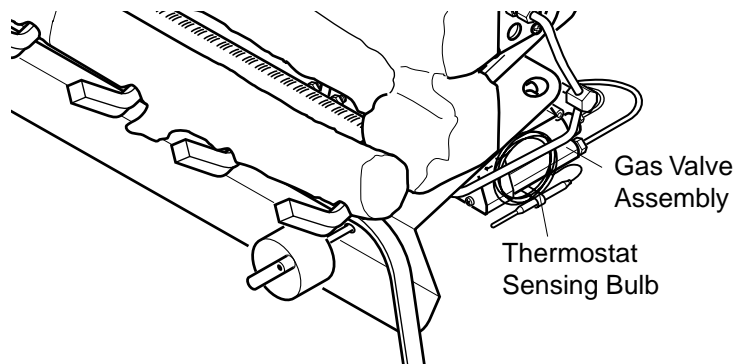

Figure 34 - Location of Gas Valve Assembly and Thermostat Sensing Bulb
1. Locate the gas valve assembly and thermostat sensing bulb (see Figure 34).